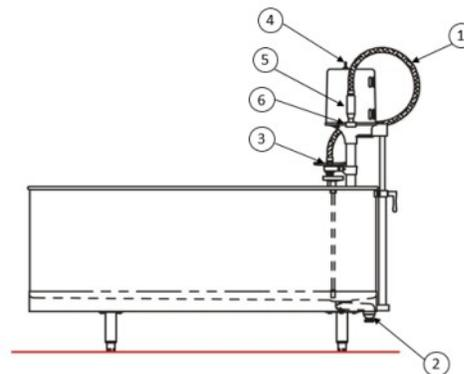

Figure 7: Draining the tub on the -SL model
2. **-SL models w/o separate drain pump** (Figure 7):